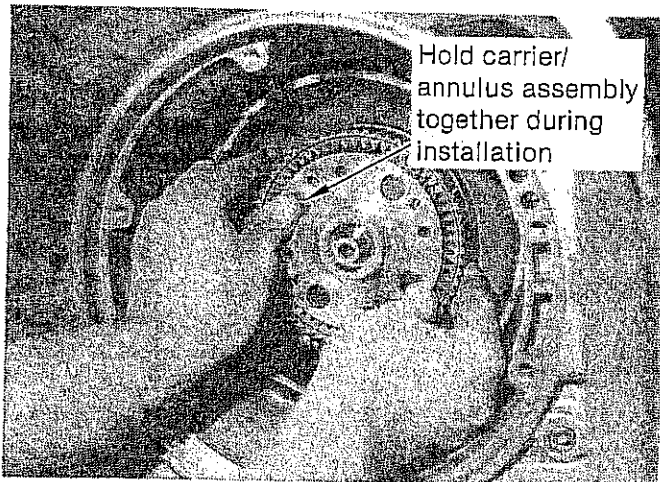
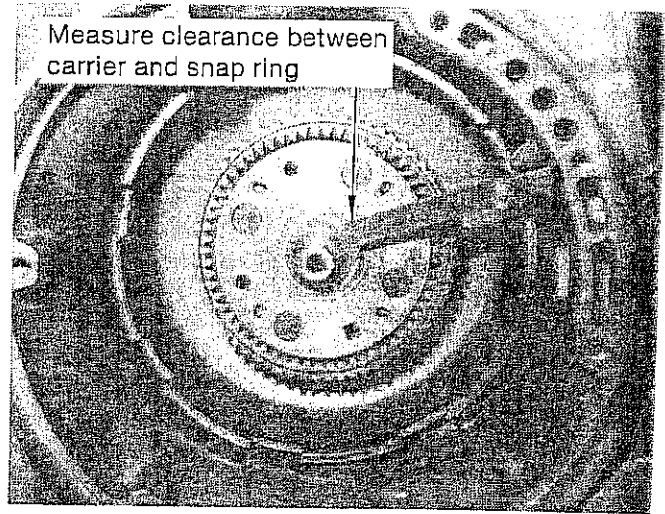

FIGURE 71
FIGURE 72
**STEP 30.** Install the annulus/planetary assembly. (See Fig. 71) Do not let the parts separate as the thrust washer will become dislodged. Push in on the assembly until it bottoms against the drive shell. Install selective snap ring onto output shaft. Measure clearance between snap ring and planetary with a feeler gage. (See Fig. 72) Clearance must be .010-.035 inch. Selective snap rings are available from your Chrysler dealer.